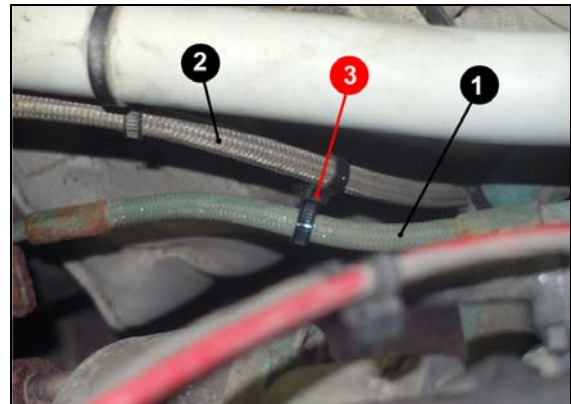

FIGURE 2: PROPER INSTALLATION (seen from above)
- 2) Check if a double loop nylon tie is installed on the braided section of the injector's hard fuel line (see FIGURE 4 to identify the appropriate type of nylon tie). This can easily be done from behind the coach by visual inspection using a flashlight. This double loop nylon tie should be installed there to maintain the nearby coolant line and the injector's hard fuel line (AHI) together while preventing them from rubbing against each other (see FIGURE 2).
- 3) If the double loop nylon tie is present as shown in FIGURE 2, then the installation is correct. This completes this bulletin, no part replacement is required.
- 1) Service technicians, for the complete procedure, refer to Volvo document **FSB 258-020** available on Impact. **DO NOT FORGET TO INSTALL A DOUBLE LOOP NYLON TIE** as shown on FIGURE 2. Take note that a partial draining of the cooling system is enough while performing the replacement.